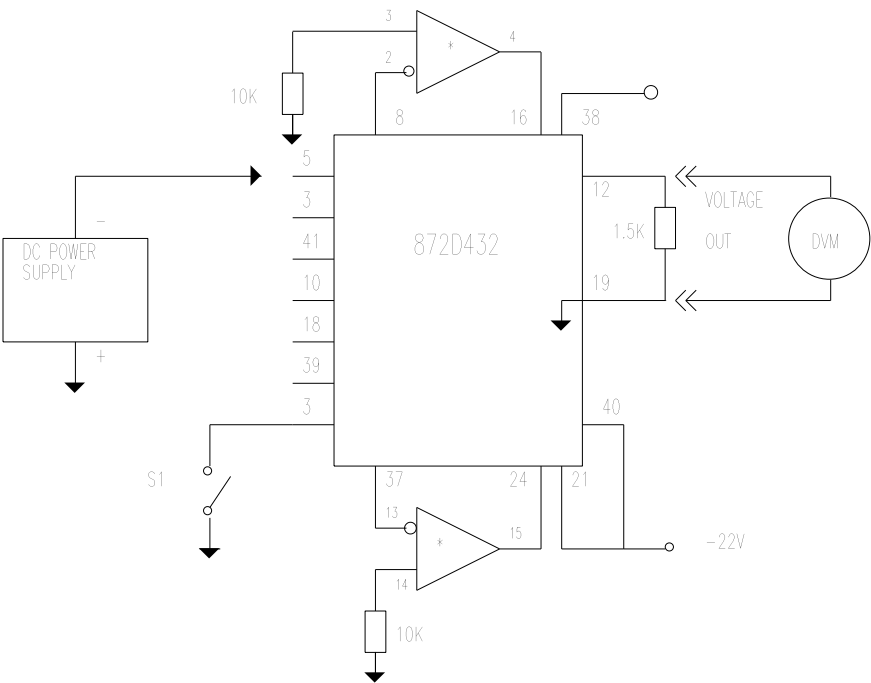

Figure 7.1
6.1.1 Connect test per figure 7.1